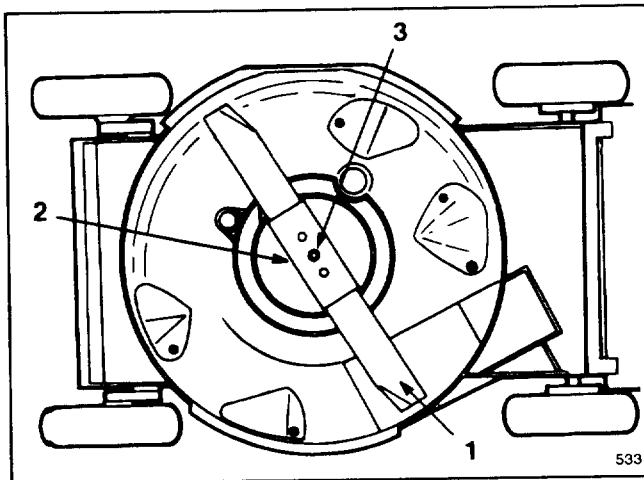

Figure 16
3. Tip mower on its right side (Fig. 16). Avoid rotating blade as starting problems may result.
5. **REMOVING BLADE**—Grasp end of blade using a rag or thickly padded glove. Remove blade bolt, lockwasher, blade stiffener, and blade (Fig. 16).